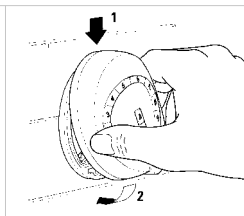

Fig. 4
- Connect the digital selector to the support fixed to the wall, hooking it to the upper part of the support Fig.4